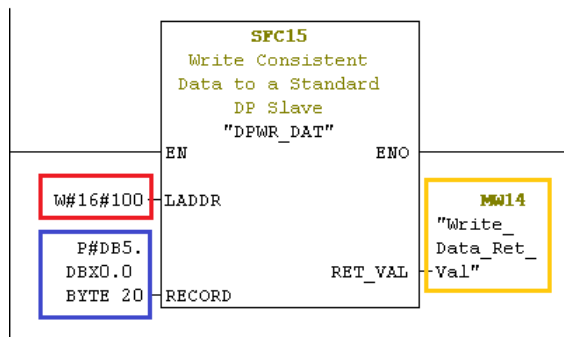

Figure 2: SFC15
- The **LADDR** parameter selects the PROFINET I/O module to which data will be written. As shown in the Figure 2, the starting address for the NX2A4E2 output area is 256, which is 100hex.
- The **RECORD** parameter defines the target **Data Block (DB)**, which will contain the NX2A4E2 Output Data to be written to the NX2A4E2 drive by this function. Set the pointer to the beginning of the data block (P#DB5.DBX0.0) and define the data length (BYTE 20).